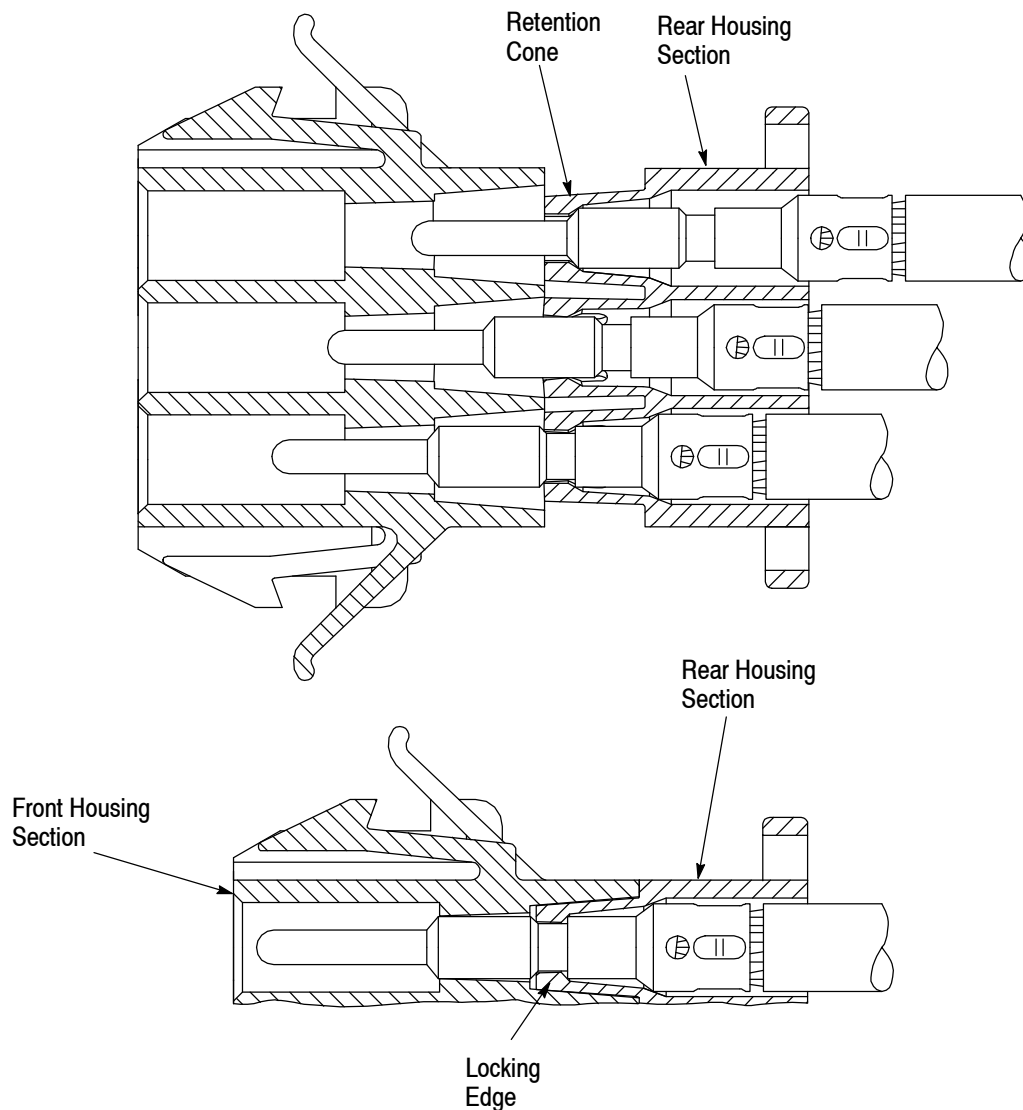

Figure 7
Crimped High Current pin and socket contacts shall be manually inserted in either the plug or cap rear housing section or they may be intermixed in each rear housing to provide multiple keying combinations. Insert contacts and join housing sections together as shown in Figure 7.
3. When all necessary contacts have been inserted, complete assembly of the connector by forcing the latches into the fully locked position. An additional squeeze across the latch shrouds will help the latches to engage fully behind the locking edges. Visually inspect that latches have fully engaged behind locking edges and all contact insulation barrels are within housing. There will be little or no gap between the front and rear housing sections when correctly assembled. See Figure 7.